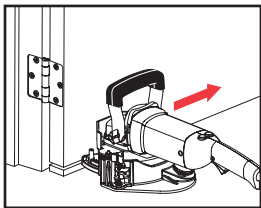

Figure 15
**DOOR CUTTING:** see Figure 15